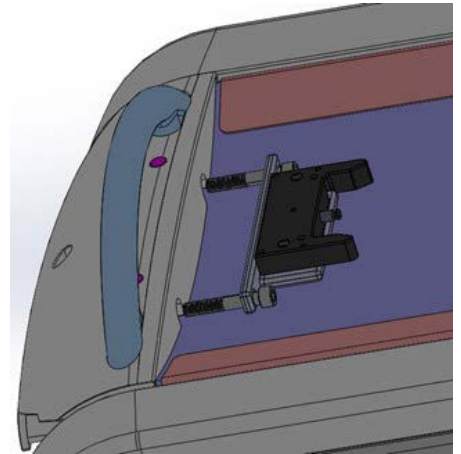

Fig. 1
The Foot End Latch Assembly secures to the Canon CT using (2) M12 bolts into the CT Cradle Handle Assembly (Fig. 1).